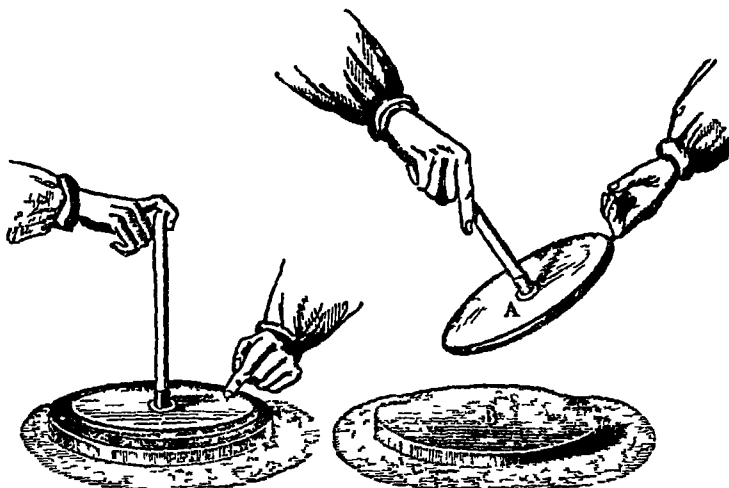
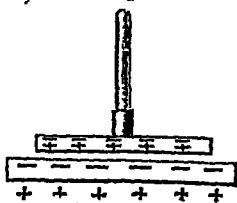
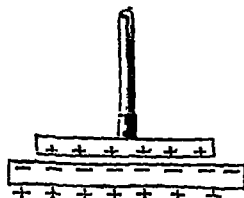

FIG 182
FIG 184.
FIG 186
**The Electrophorus**—In its simplest form, the electrophorus consists of two parts: a cake B (fig 182) made of vulcanite resin, indiarubber, or other resinous substance, and a flat metal plate A to which is attached an insulating handle of glass or ebonite. The cake is struck or rubbed with fur, and thus becomes negatively electrified, by induction the part of the table or surface on which it
below zero (fig 184) If now the plate be touched (figs 182, 185), negative electrification will escape while positive electrification will take its place, there will be an excess of positive electrification
attracted by the opposite charge on the cake, to the underside of the cover, the potential rises to zero, on removing the finger, the cover remains positively charged but at zero potential (fig 186) On raising the cover by its insulating handle, the charge distributes itself over the plate, and the potential rises above zero. If now we present any conductor at a lower potential to it (fig 182), a spark passes, and the potential falls,